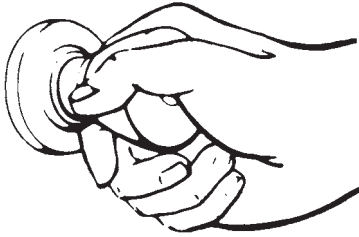

Figure 13.1 Is the door locked?
- Is the door locked (Fig. 13.1)?